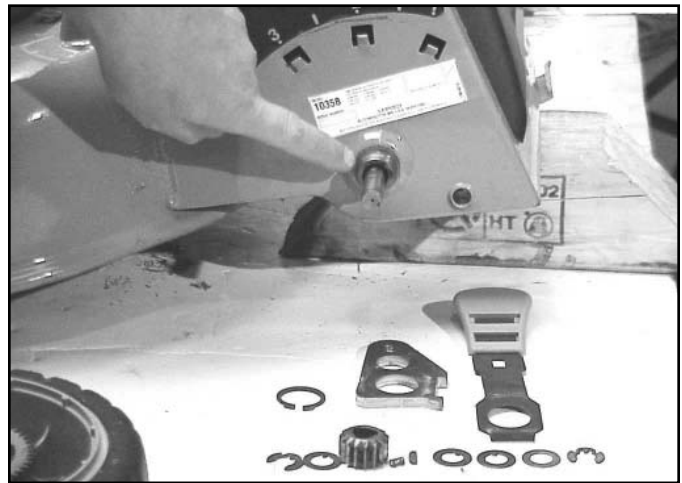

Fig 100
13. Push the bearings and bearing retainers inward, towards the transmission (Fig. 100).